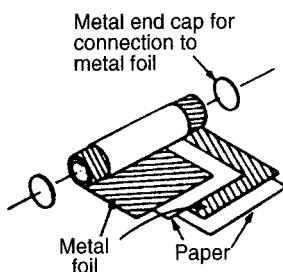

Figure 6.15
3. **Paper capacitors.** A typical paper capacitor is shown in Fig. 6.15 where the length of the roll corresponds to the capacitance required. The whole is usually impregnated with oil or wax to exclude moisture, and then placed in a plastic or aluminium container for protection.